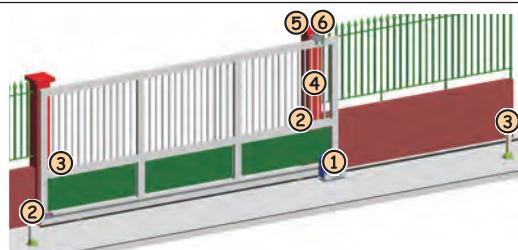

Fig. 3
- Prepare the electrical cables for connection to the accessories and the electrical power supply as shown in Fig. 3.